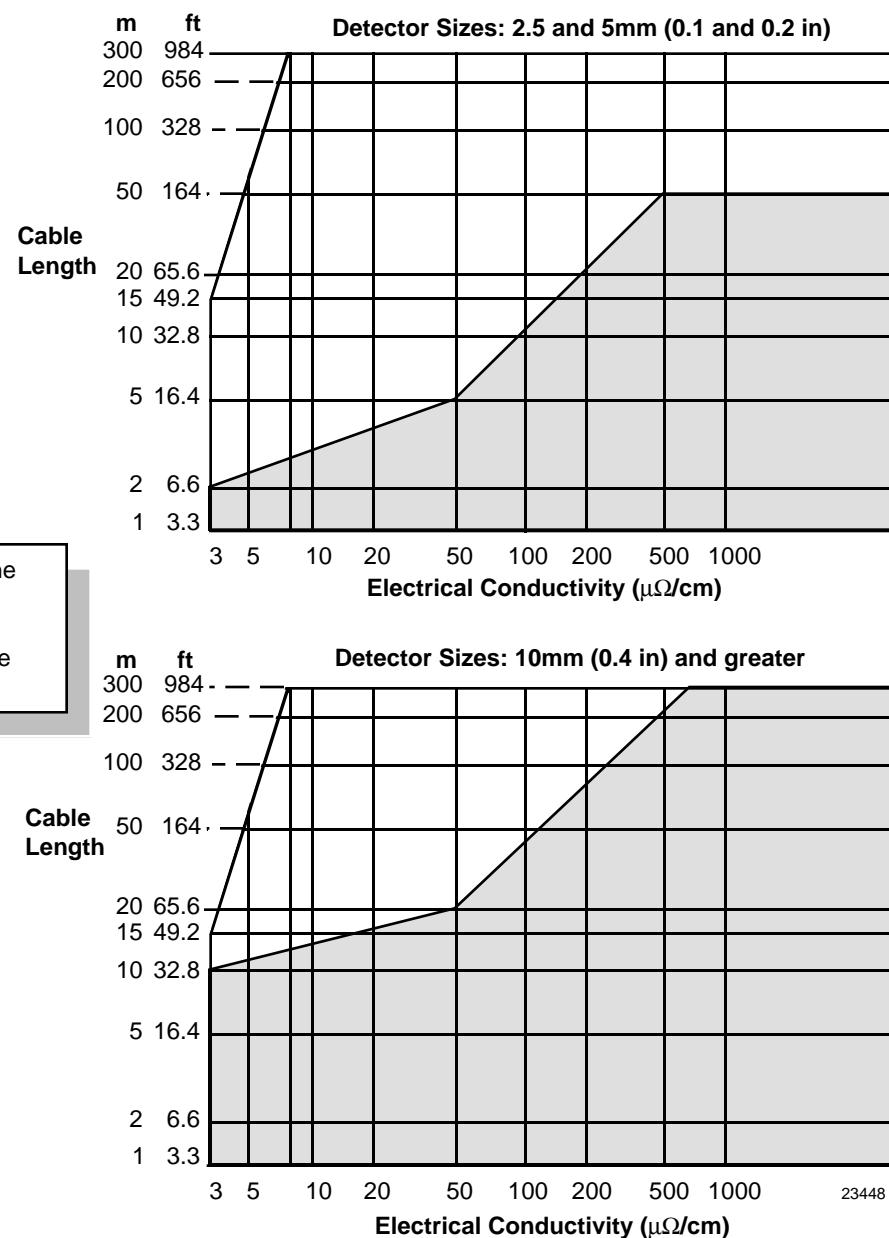

Figure 9—Cable Length Versus Fluid Conductivity
- The length of the cable between the detector and the converter depends on the electrical conductivity ($\mu\text{S}/\text{m}$) of the fluid to be measured. (Refer to Figure 9 on page 10.)
Figure 9 shows the relation between fluid conductivity and cable length.